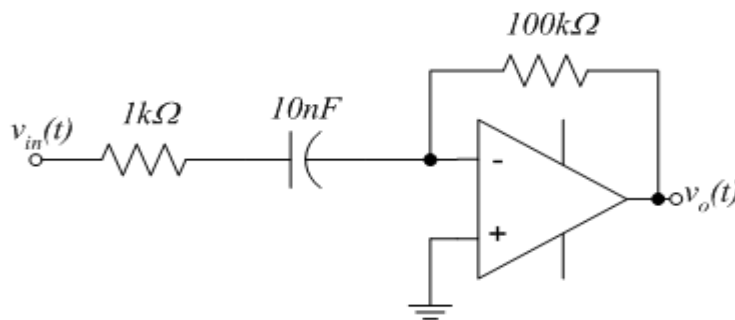

Figure.3: Differentiator Circuit
Op-amps allow you to make nearly perfect integrators such as the practical integrator shown in figure 3. The circuit incorporates a large resistor in parallel with the feedback capacitor. This is necessary because real op-amps have a small current flowing at their input terminals called the "bias current". This current is typically a few nano-amps, and is neglected in many circuits where the currents of interest are in the microamp to milliamp range. However, if you apply a nanoamp current to a 0.1mF capacitor, it won't take long until it charges and becomes effectively an open circuit not allowing any current to flow! The feedback resistor gives a path for the bias current to flow. The effect of the resistor on the response is negligible at all but the lowest frequencies.
1. Wire up the practical op-amp differentiator shown in figure 3 using your 741op-amp.